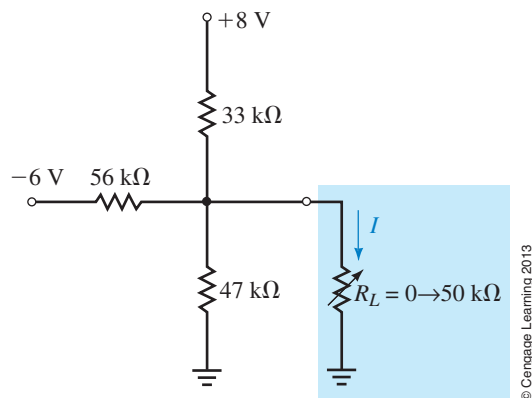

FIGURE 9–94
21. Find the Thévenin equivalent circuit of the network external to the indicated branch as shown in Figure 9–95.